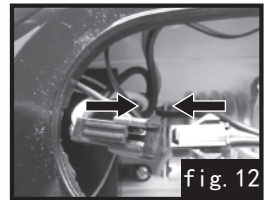

fig. 12
- 12.Connect the wire connector for motor and cabin,fig.12.